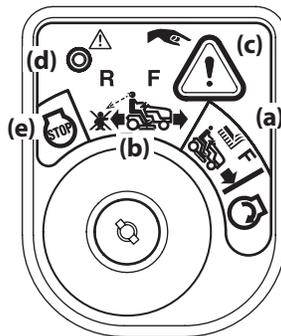

Figure 3-10
2. Turn the key from the NORMAL MOWING  (a) position to the REVERSE CAUTION MODE  (b) position of the ignition module. See Figure 3-10.
3. Press the REVERSE PUSH BUTTON  (c) at the top, right corner of the ignition module. The red indicator light (d) at the top, left corner of the ignition module will be ON while activated. See Figure 3-10.
6. The REVERSE CAUTION MODE (B)  will remain activated until: